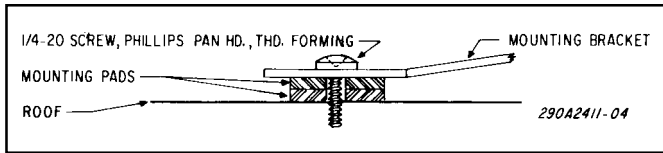

Figure 2.
1. See figure 2. Position the light assembly on the vehicle roof at the desired location. The unit should be positioned with the pods aligned facing forward. In addition, ensure that the unit does not interfere with operation of other apparatus.
4. Place the light assembly in position on the roof. Insert two mounting pads between the light assembly and roof for each mounting bracket leg (see figure 2). Secure the light assembly to the roof using eight 1/4-20 thread-forming screws and tighten securely. The light assembly should now be solidly anchored to the roof.